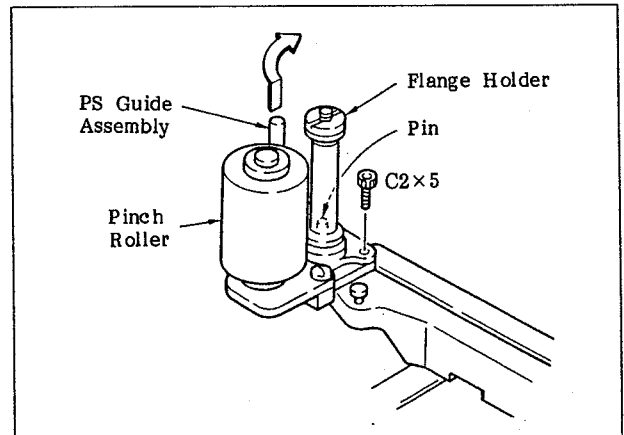

Fig. 6-95 Movement of the PS Guide Assembly
- Remove the screws (C2x5) that hold the PS guide assembly and then move the PS guide assembly in the direction of the arrow. (Figure 6-95)